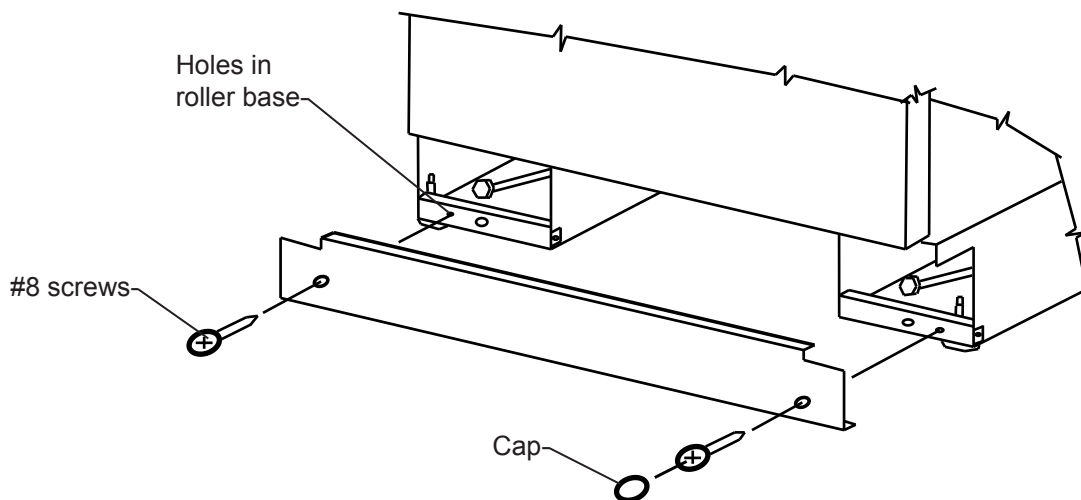

Figure 28
Use two (2) #8 sheet metal screws (supplied) to facilitate holding your kick plate in place. Mount screws in holes in roller base. Cover screw heads with caps supplied. (See Figure 28).